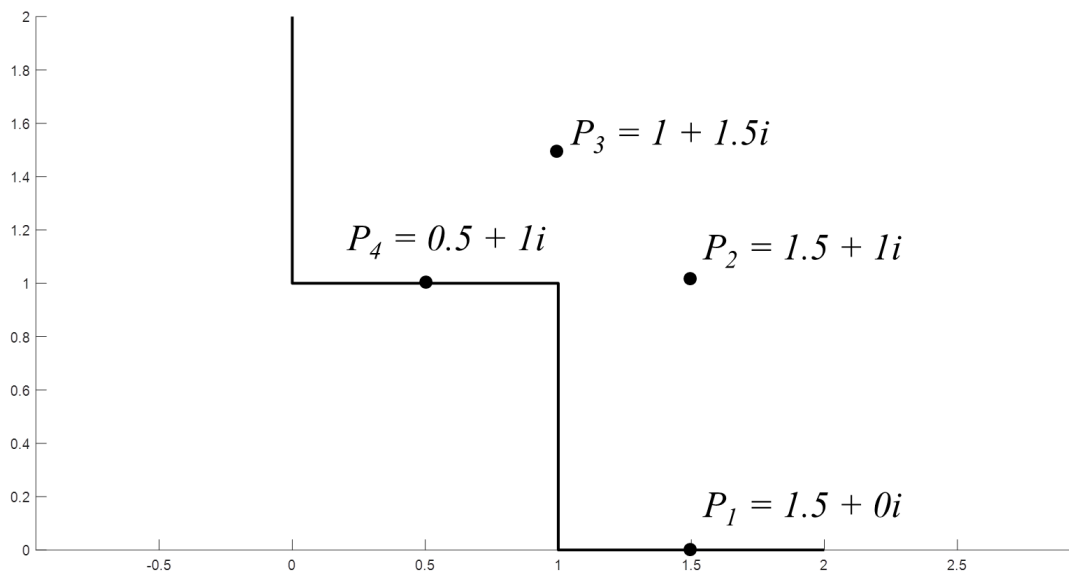

Figure 6. Definition of Precision Points for Path Generation
- Design a mechanism that will move the leg of the spider as shown in Fig. 6 while the prescribed rotation of the input link is  $\beta_1 = 60^\circ$ ,  $\beta_2 = 120^\circ$ , and  $\beta_3 = 180^\circ$ . Use the partially written Matlab file MSE\_211\_Lab\_2\_path\_generation.m